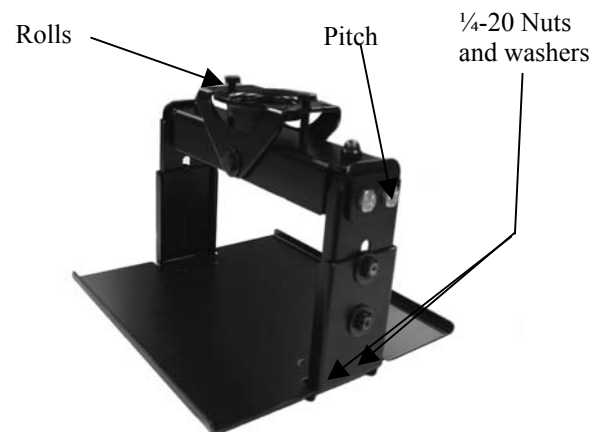

Figure 1
2. Measure projector width and height and adjust LCDA frame to appropriate size. Hand tighten only to prevent members from moving freely (see Figure 1).
Loosen the 1 ½" jam nut and back it off a couple of turns. Turn LCDA frame assembly clockwise to desired yaw and re-tighten jam nut. **CAUTION!** When turning LCDA assembly about the pipe in a counter clockwise direction, it may be completely unthreaded (see Figure 1).
Slightly loosen four ¼-20 bolts at the upper outsides of the assembly and it may be tilted forward or backward to a desired angle. Re-tighten bolts (see Figure 1).
Loosen either of the roll adjust bolts and tip assembly to desired angle. Re-tighten opposite bolt to lock position (see Figure 1).